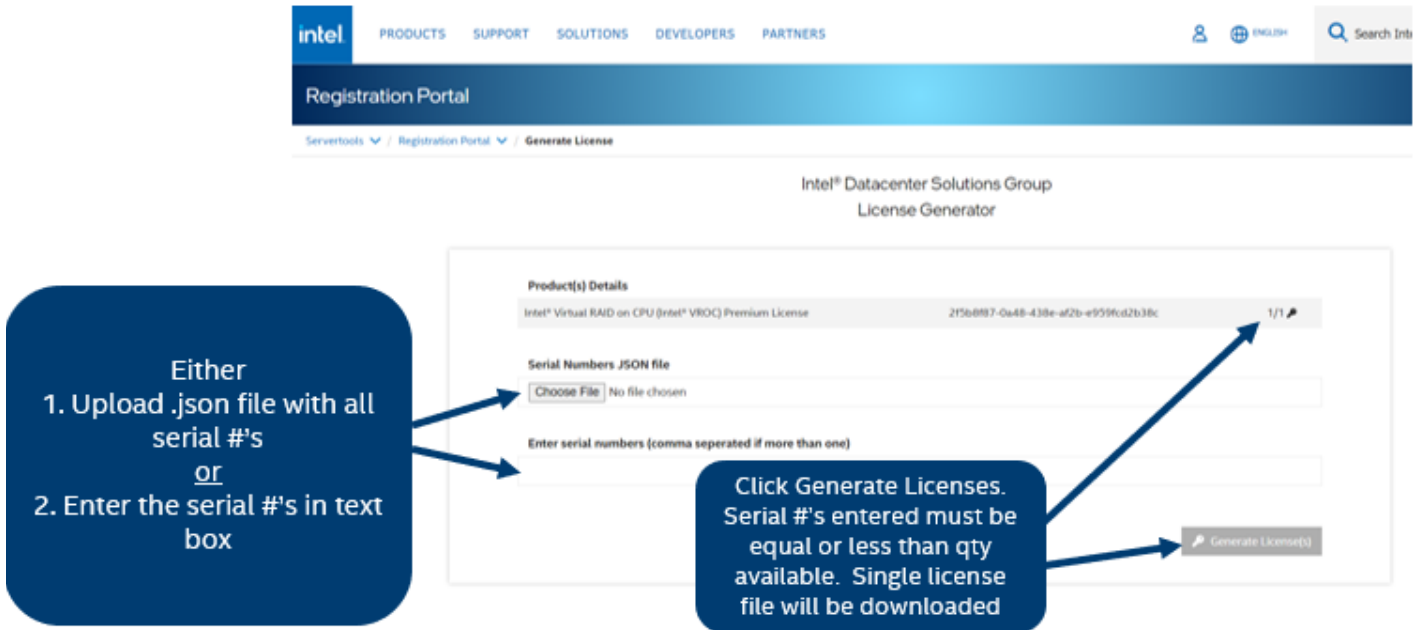

Figure 106. Generate License for Intel® Virtual RAID on CPU Standard/Premium Software Key
- Multiple board serial numbers can be entered in the text box or by uploading a .JSON file with the list. Only a single license file will be downloaded. This single license file will work with all systems that match one of the serial numbers. (see Figure 106)